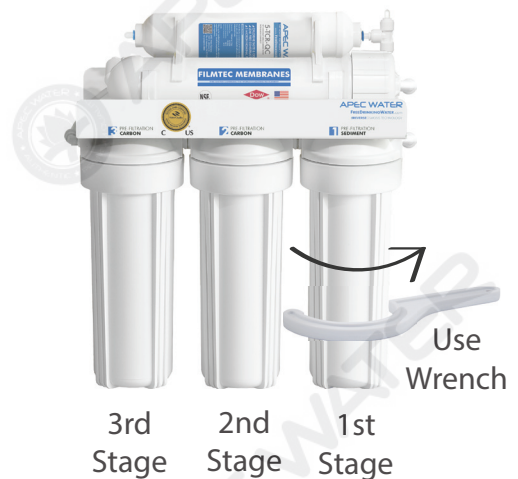

Fig. 3
3. **See Fig. 3** Use the wrench provided to completely tighten the housing starting from 1st-stage. Repeat this step for the 2nd stage housing in the middle, and for the 3rd stage housing on left.